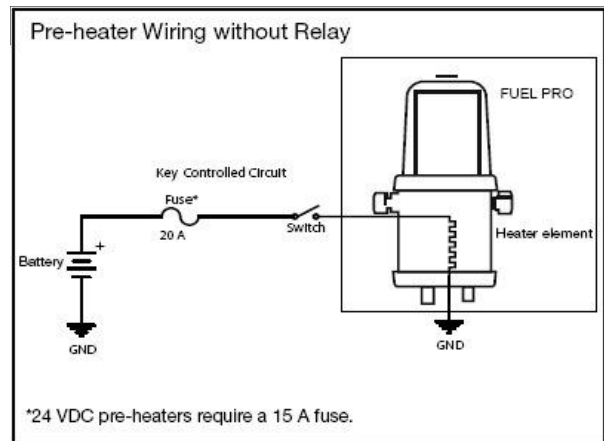

Figure 5
- For 12 VDC or 24 VDC without a relay, refer to Figure 5.